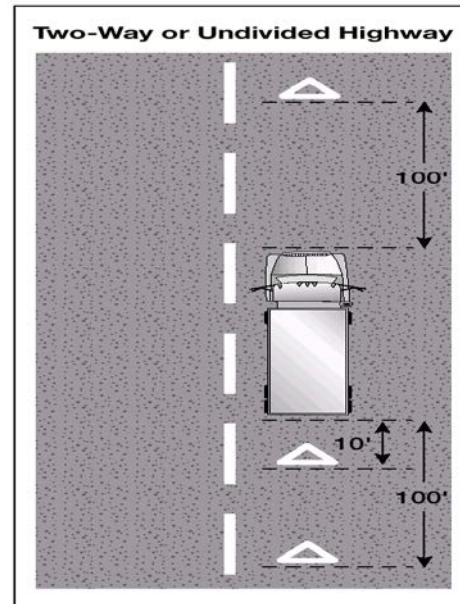

Figure 2.9
- If you stop on a two-lane road carrying traffic in both directions or on an undivided highway, place warning devices within 10 feet of the front or rear corners to mark the location of the vehicle and 100 feet behind and ahead of the vehicle, on the shoulder or in the lane you stopped in. See Figure 2.9.